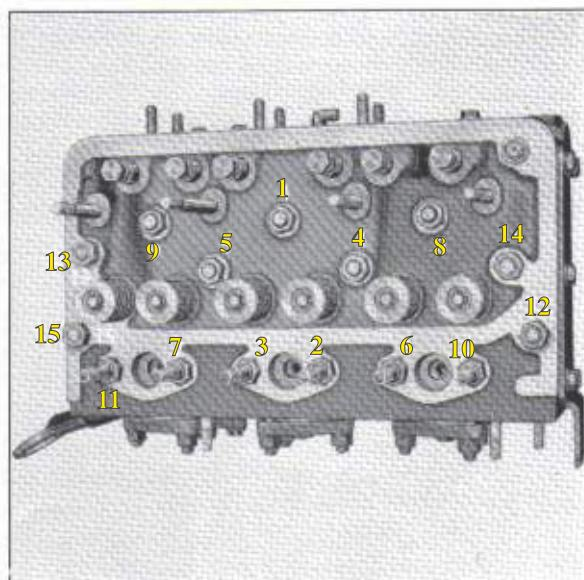

Fig. 2
15. Unscrew the fifteen nuts retaining the cylinder head to the cylinder block in a sequence opposite to that shown on Fig. 2, using the special deep socket (Tool No. T 6053).
4. Refit the cylinder head nuts and tighten in the correct order as shown on Fig. 2, to a torque of 55 to 60 lb. ft.
16. Run the engine until its normal working temperature is reached, remove the rocker shaft and tighten the cylinder head nuts down to a torque of 55 to 60 lb. ft., using the sequence shown in Fig. 2.